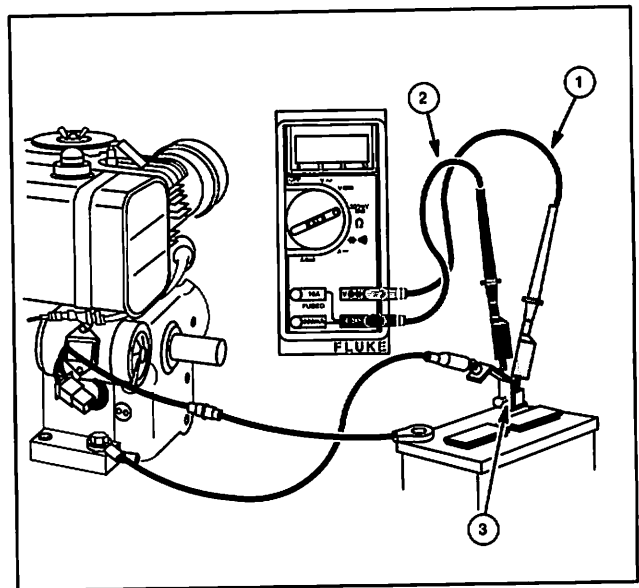

Fig. 34
The DC Shunt **must** be installed on the – (**negative**) terminal of the battery, Fig. 34. All connections must be clean and secure.
2. Insert RED test lead (1) into $V \Omega \rightarrow$ receptacle in meter and connect to RED post terminal on shunt, Fig. 34.
3. Insert BLACK test lead (2) into COM receptacle in meter and connect to BLACK post terminal on shunt.
5. Attach RED test lead clip to DC output terminal on regulator-rectifier, Fig. 34.